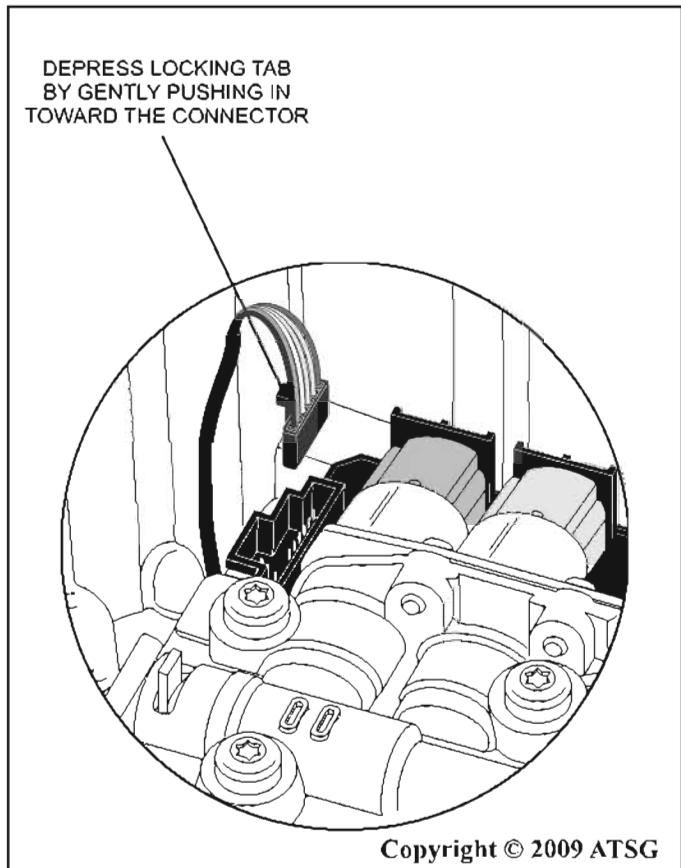

Figure 8
- 13 Depress the locking tab for the transmission range sensor by pressing toward the connector gently and carefully remove the connector by lifting straight up as shown in figure 8.